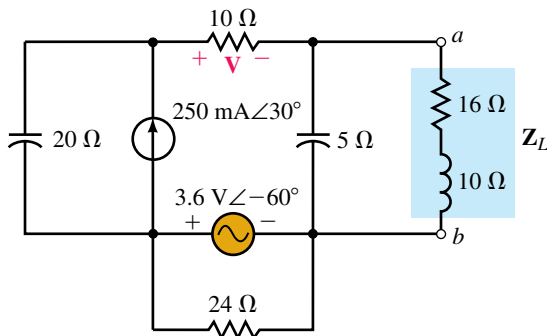

FIGURE 20-71
6. Repeat Problem 5 for the circuit of Figure 20-71.